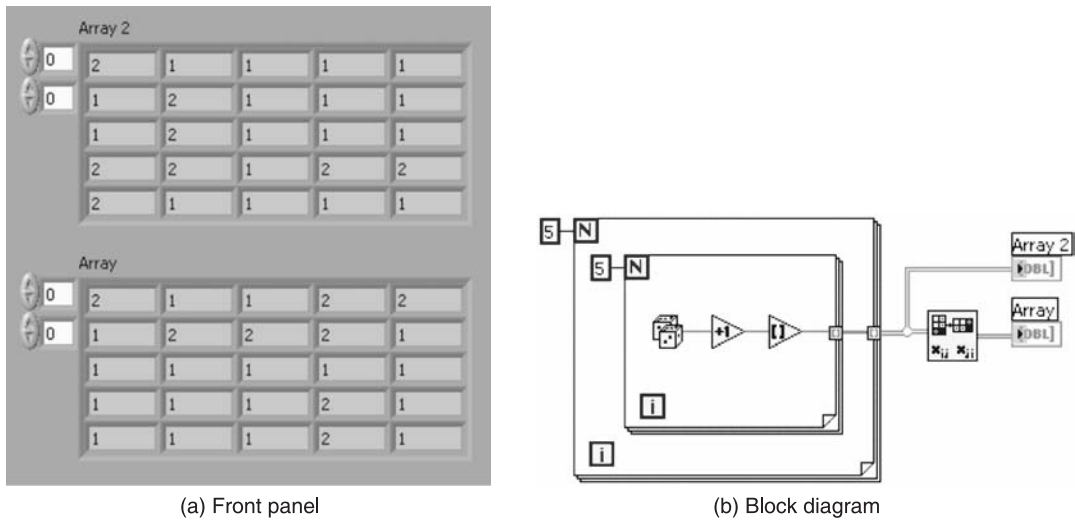

Figure P5.5
**Solution** The front panel and the block diagram to build a 2D numeric array are shown in Figures P5.5(a) and P5.5(b).